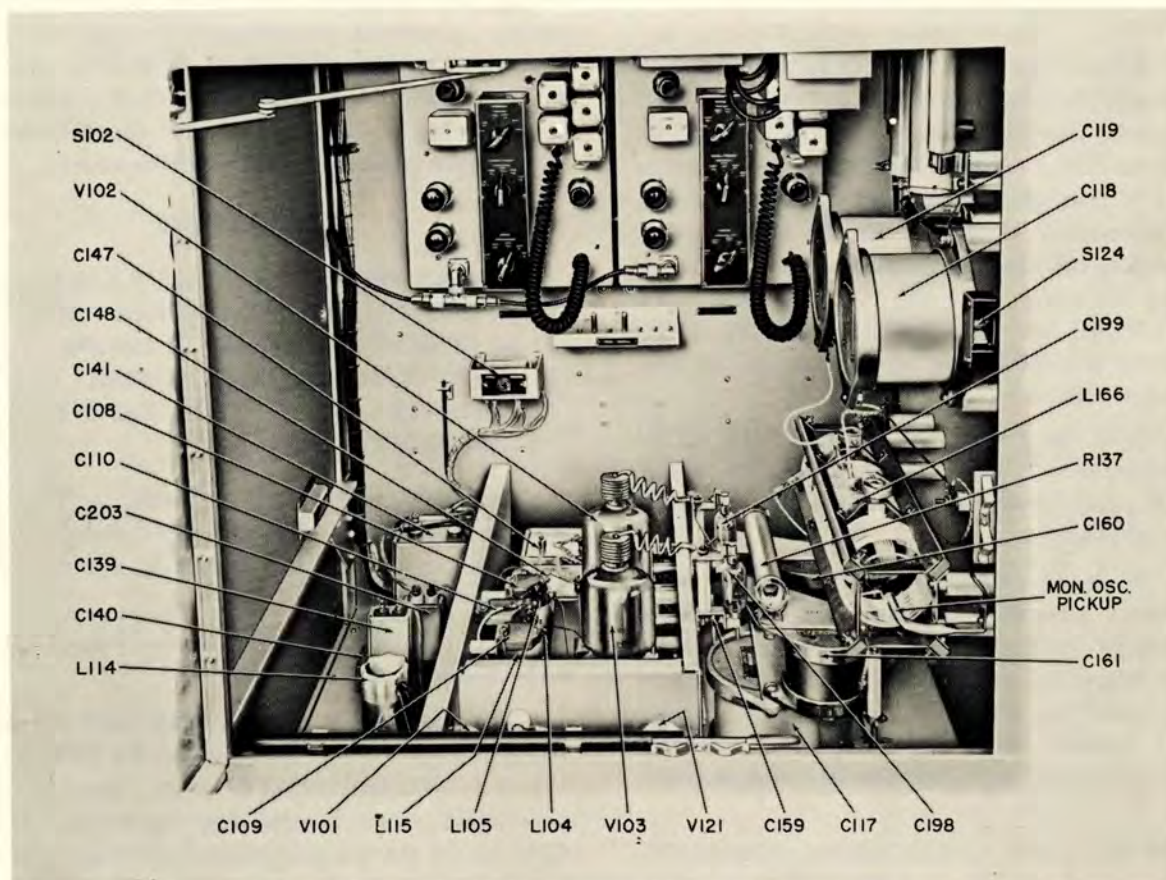

Figure 7-31. IPA Stages, Cover Plates Removed
a. 2ND IPA NEUTRALIZATION. — The adjustment of neutralizing capacitors C158 and C159 in the IPA compartment (C159 shown in figure 7-31) is made as follows:
(1) Loosen the locknut on the threaded shaft of each capacitor.
(2) Adjust the variable plate until the spacing between plates is $\frac{7}{8}$ inch. Tighten the locknuts.